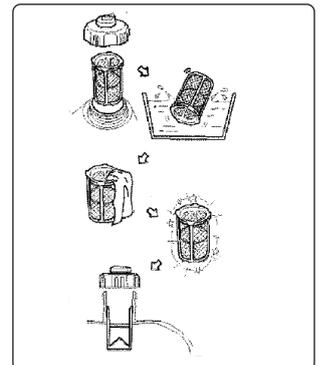

fig.23
- 7.6.1. Remove the fuel tank cap and filter. fig.23